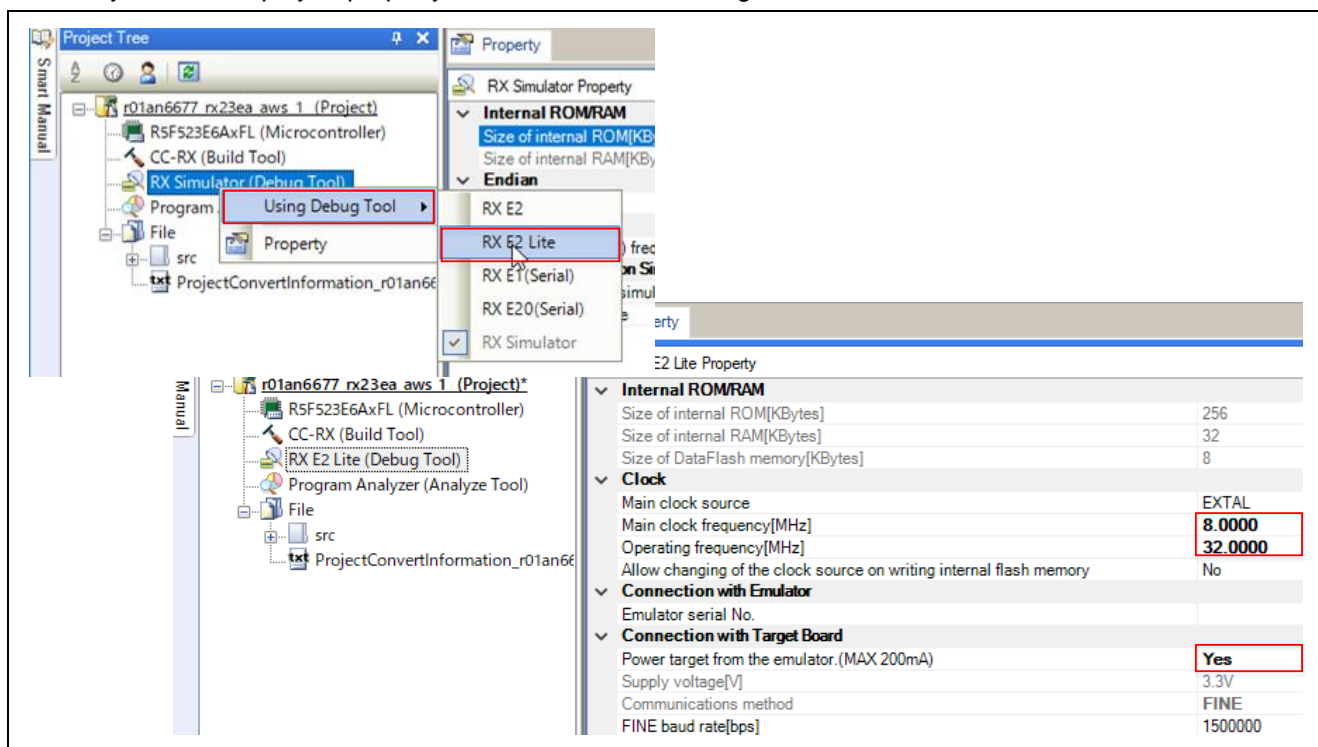

Figure 4-5 Debug Setting
2. Verify that the displayed property screen is as shown in Figure 4-5.